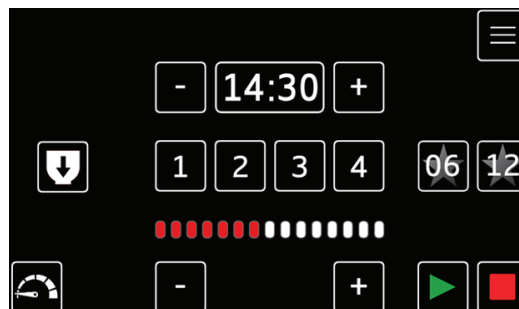

Figure 18-1.
1. Select the main menu button in the top right corner of the touch panel to access the operating log. (Figure 18-1).